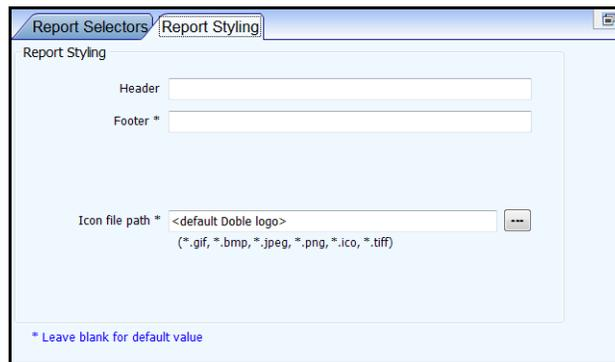

Figure 208 Report Styling Tab
5. Click the **Report Styling** tab (Figure 208).